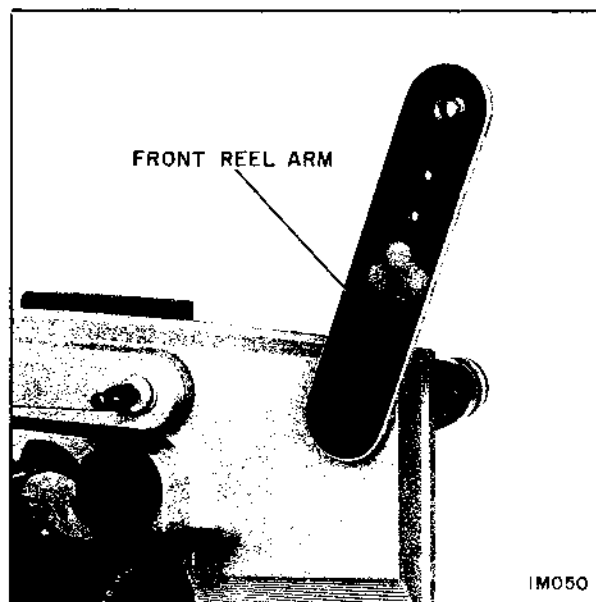

Figure 34
1. Raise arm to operate position. (Refer to Figure 34).